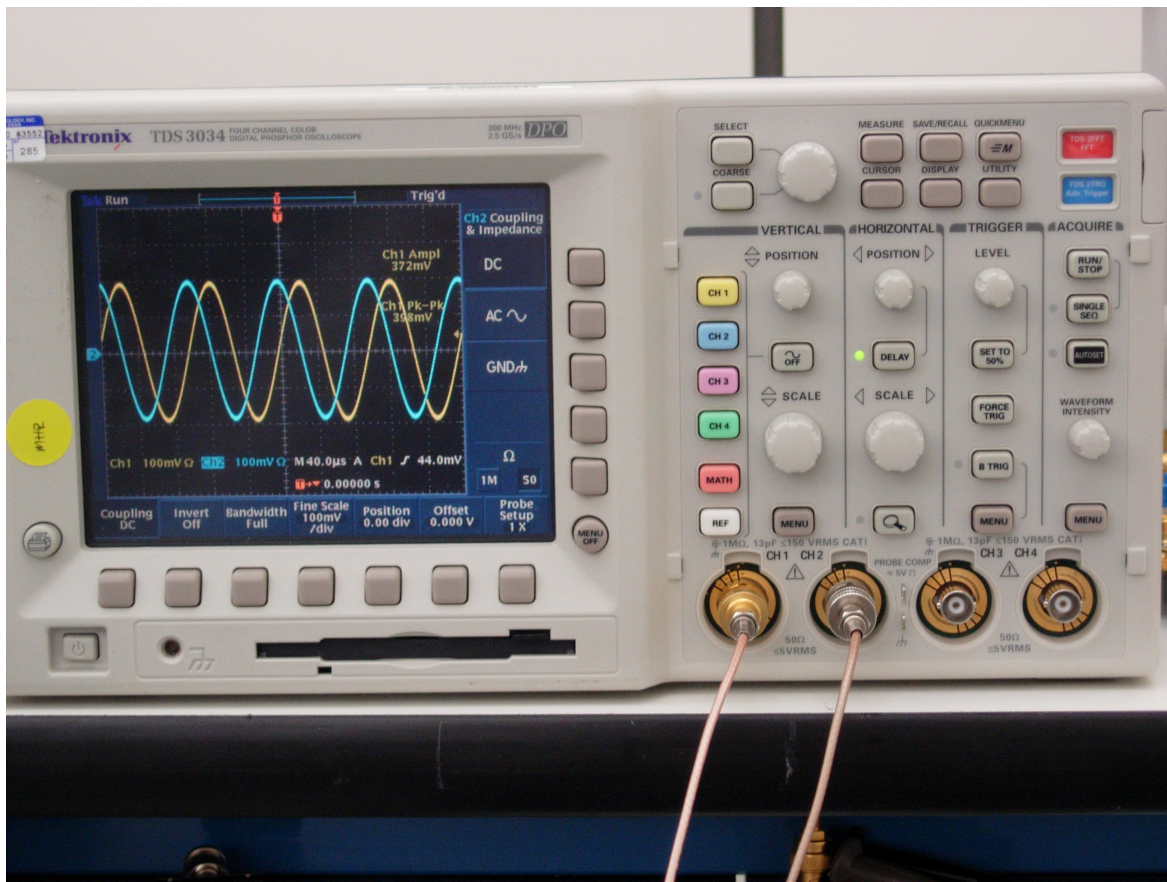

Figure 6. CW Outputs
- The CW outputs (J12, J13) display the frequency I and Q signals at 10 kHz as shown in Figure 6. The GUI Gain Control Feedback Resistor can be used to vary the amplitude of the outputs.